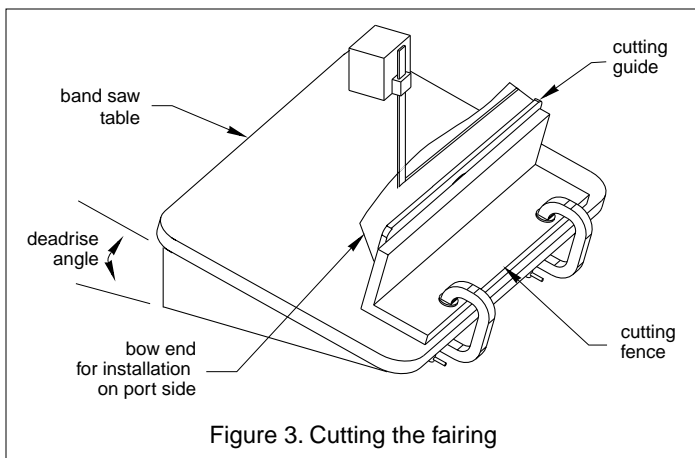

Figure 3. Cutting the fairing
2. Tilt the band saw table to the measured angle and secure the cutting fence (see Figure 3).